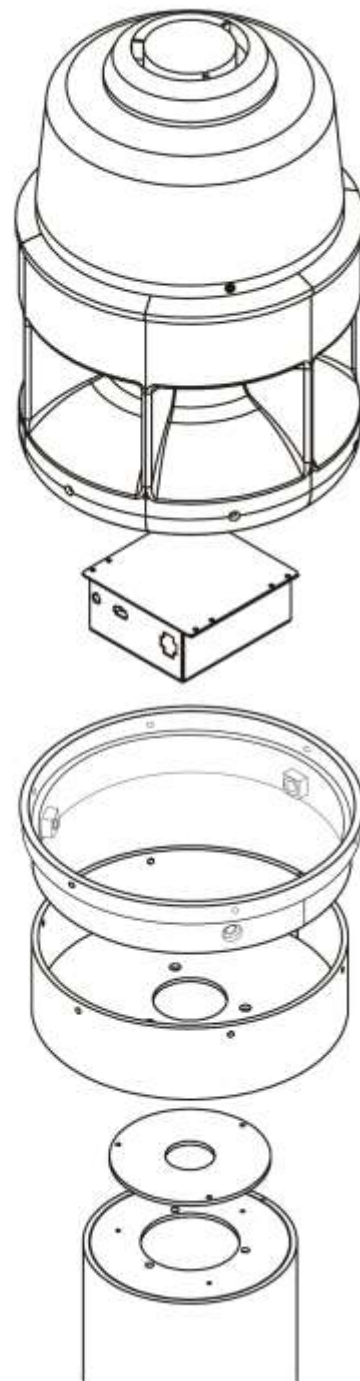

Figure 2
4.1.3.2 Place the adapter ring on top of the bollard and tighten the three Allen set screws to hold in place (see Figure 2 on Page 12).
4.2.3.3 Place adapter ring on top of the adapter base and tighten the three Allen set screws to hold in place (see Figure 2 on Page 12).